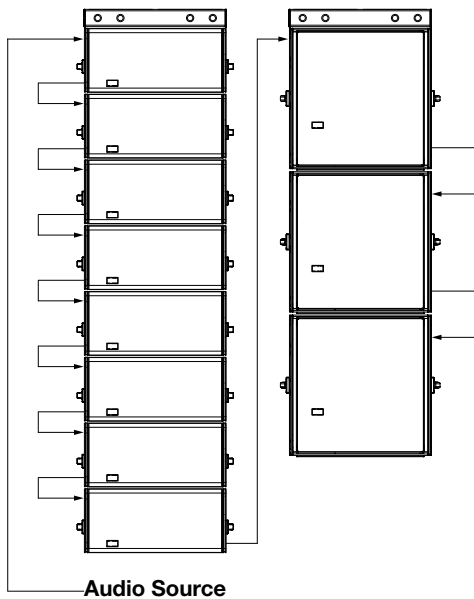

Figure 5: Flown Separate Arrays
- Flown separate arrays of LINAs and 750-LFCs (Figure 5)